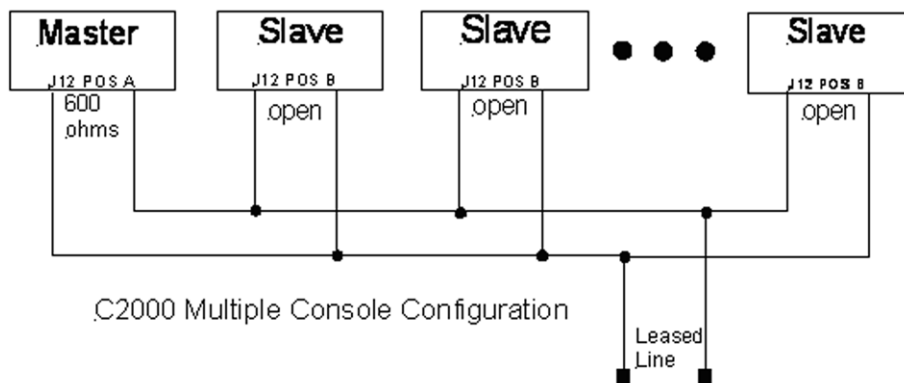

FIGURE 7. Master and Slave Console Configuration
If only one (1) console is attached, this unit should have J12 in the A position. This makes it the effective master and terminates the line with 600 Ohms. If multiple consoles are connected in parallel, one (1) console should be designated as the master by placing J12 in the A position. The remaining consoles should be designated as slaves and should have J12 placed in the B position. In this manner, the impedance looking back into the parallel configuration of consoles is still 600 Ohms. Figure 7 shows the basic configuration.